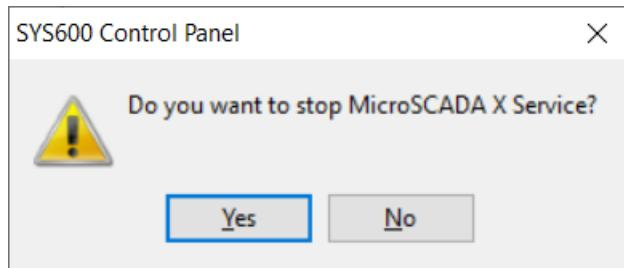

Figure 66: Stopping service confirmation dialog box
4. The dialog box shown in Figure 66 is displayed.